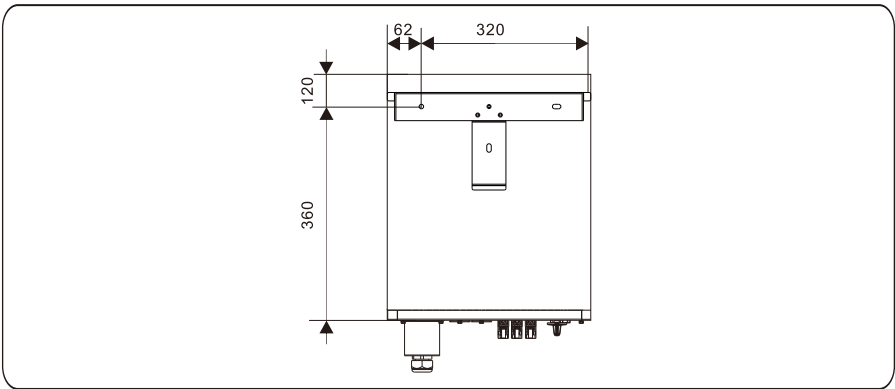

Figure 4.9 Determine the positions for drilling holes (unit: mm)
Step 2 Determine the positions for drilling holes (as shown in Figure 4.9) using the rear panel.